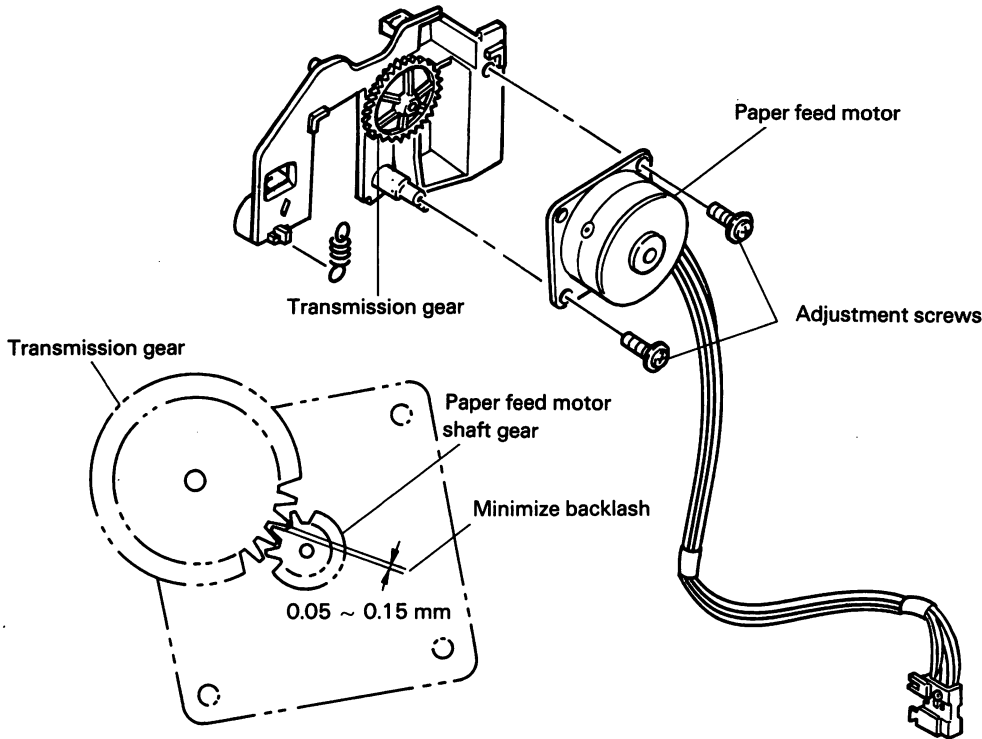

Fig. 4-22. Paper Feed Motor Backlash Adjustment
4.3.1. Paper Feed Motor Backlash Adjustment (Fig. 4-22)